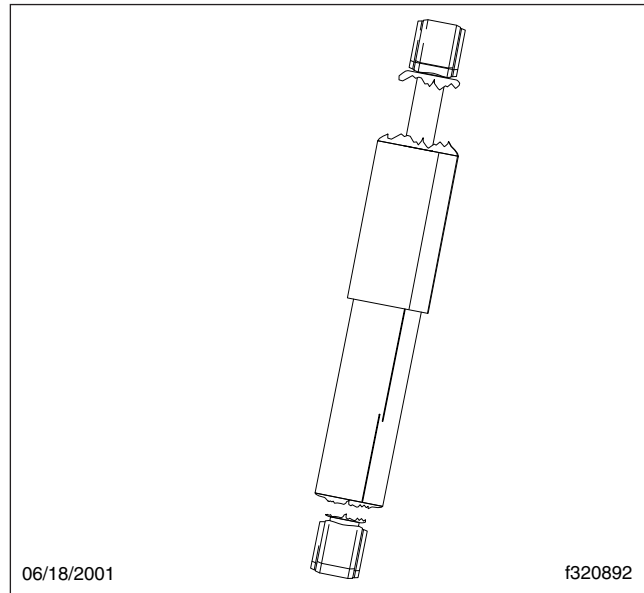

Fig. 2, Shock With Broken Eye and Tube
7. Upper or lower mount eye broken and dust tube broken. See Fig. 2.